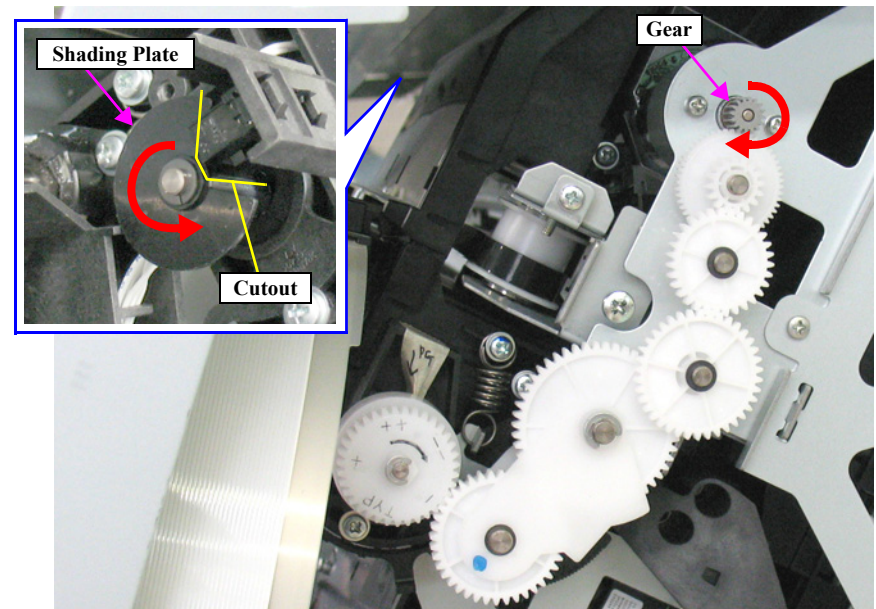

Figure 4-74. Rotating the Shading Plate
7. Rotate the gear shown in Figure 4-74 until the cutout of the shading plate comes in between the sensor's detector as shown in Figure 4-74.